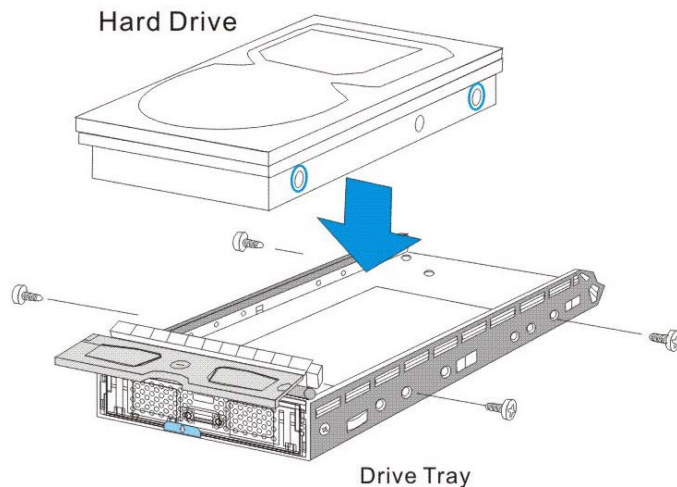

Figure 2-2: Installing a Hard Drive
Step 1. Place the hard drive into the drive tray (as shown in **Figure 2-2**). Make sure the interface connector is facing the open side of the drive tray, and the label side facing up.
Step 3. Secure the disk drive with four (4) of the supplied 6/32 flat-head screws. (See **Figure 2-2**)